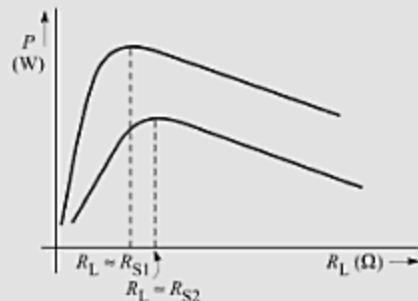

Fig. 4.60
**Graph** The graphs for the two values of  $R_S$  is drawn in Fig. 4.60.